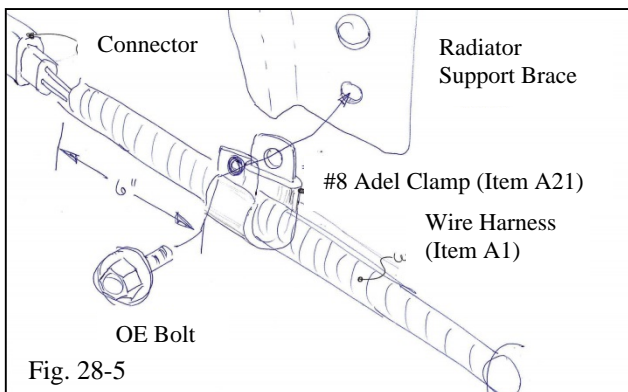

Fig. 28-5
- (c) Lay the intercooler pump wire harness assembly (Item A1) out on a table and place the #8 Adel clamp (Item A21) 6" from the end of the convoluted tubing on the connector end (Fig. 28-5).
- (1) Place the OE bolt in the upper mounting holes of the brace but do not tighten it yet.
- (2) Use the remaining OE bolt to secure the lower end of the brace by placing it through the Adel clamp.
- (3) The harness connector should be on the passenger side of the vehicle with the remainder of the harness stretched out across the bumper toward the driver's side.